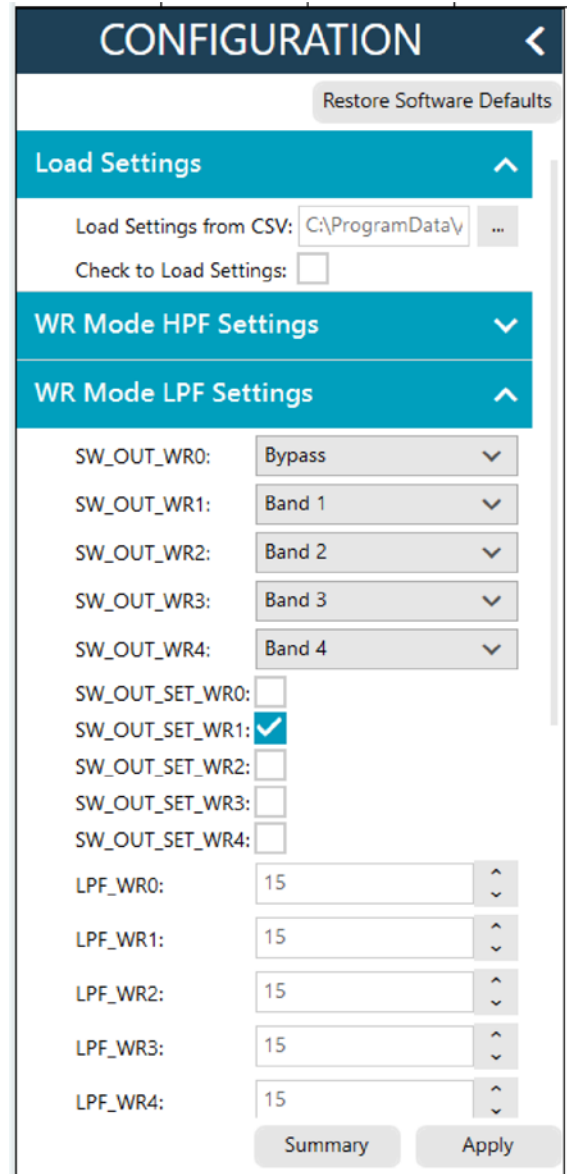

Figure 9. ADMV8818 CONFIGURATION Section
7. Use the CONFIGURATION section (see Figure 9) in the ACE software to initialize the chip. By default, the ADMV8818\_Register\_Load\_1.csv file is loaded into this section. Click **Apply** to send the default settings to the chip and to allow the main diagram user controls to become editable.
3. Click the ... button next to **Load Settings from CSV** to select which CSV file to load (see Figure 9).